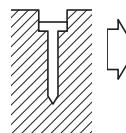

FIG. 10
- To reduce the nail depth, turn the adjustment knob towards the "flush" icon, see figure 10.